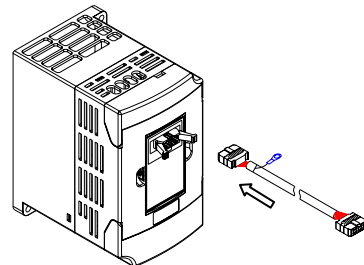

Fig. 3-6
STEP 3. Insert the optional cable with the grounding side into the slot of interface board. (as shown in the figure 3-6).